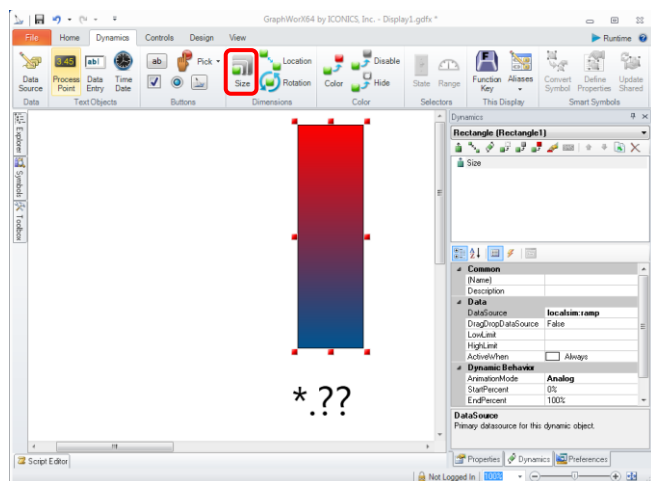

Figure 6 - Adding the Size Dynamic to the Rectangle Object
17. Select the **Rectangle** button in the Shapes section; hold the left-mouse button down while you drag the mouse to draw a rectangle similar to Figure 6.